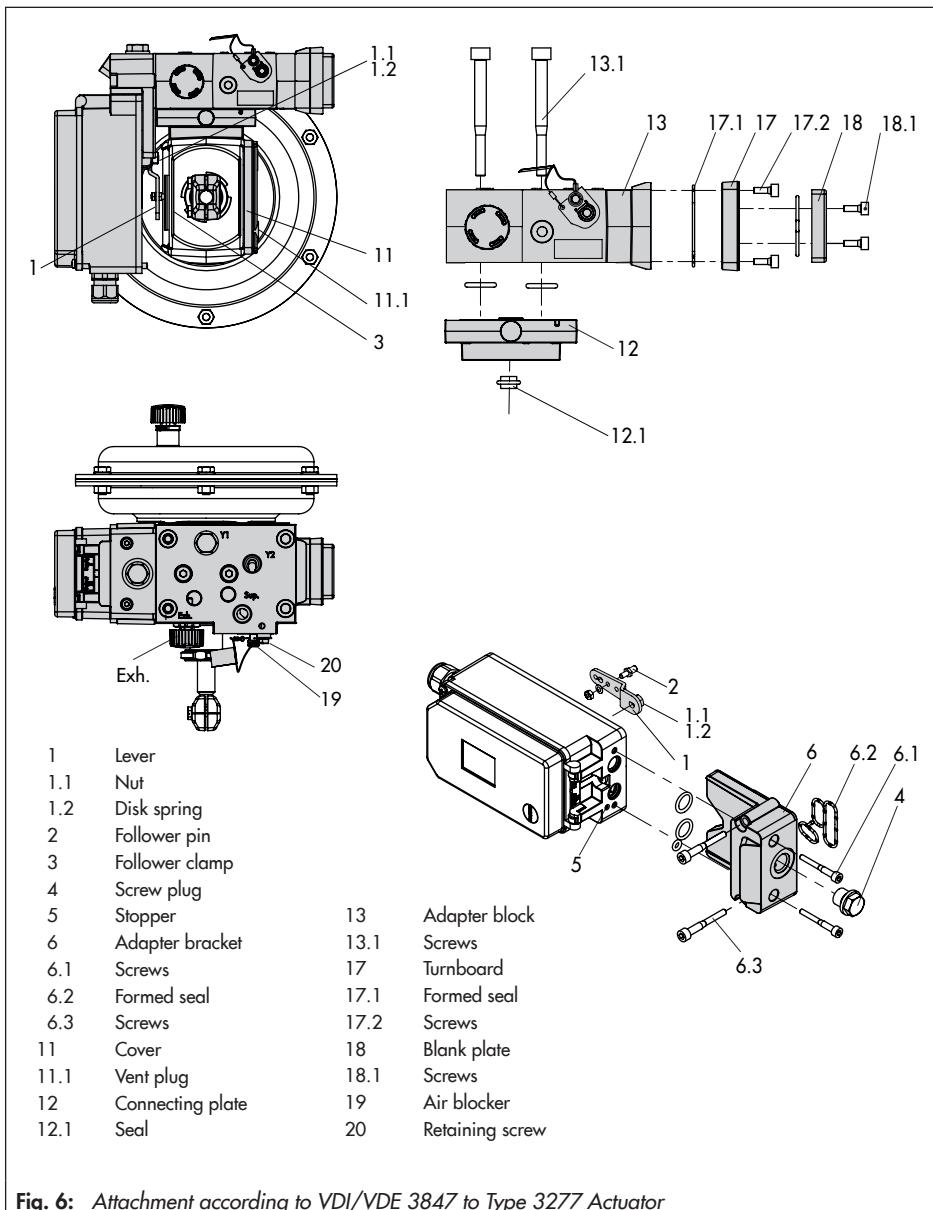

Fig. 6: Attachment according to VDI/VDE 3847 to Type 3277 Actuator
Attachment to Type 3277 Actuator (see Fig. 6)
Mount the positioner on the yoke as shown in Fig. 6. The signal pressure is routed to the actuator over the connecting plate (12), for actuators with fail-safe action "actuator stem extends" internally through a bore in the valve yoke and for "actuator stem retracts" through external piping.